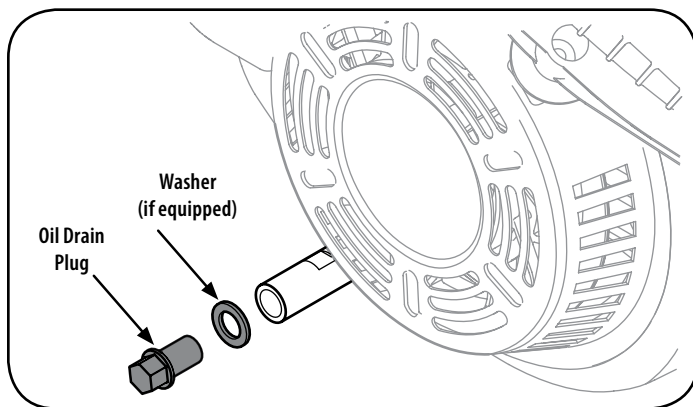

Figure 42
3. Remove oil drain plug and washer (if equipped). See Figure 42.